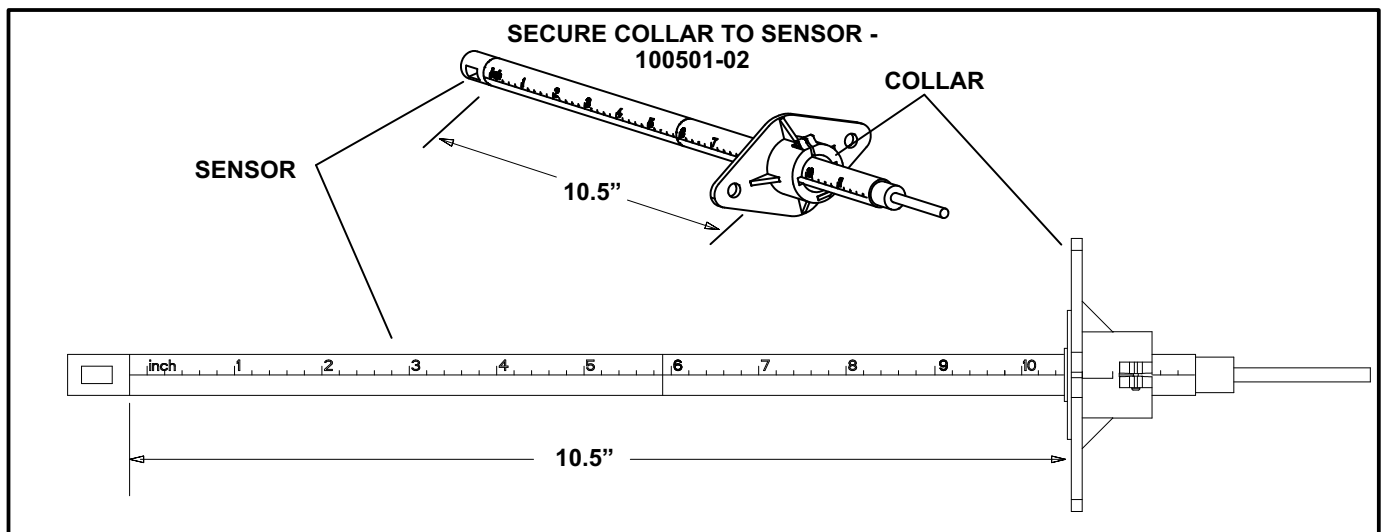

FIGURE 1
- 1- Install collar onto sensor at the 10.5 mark. See figure 1.